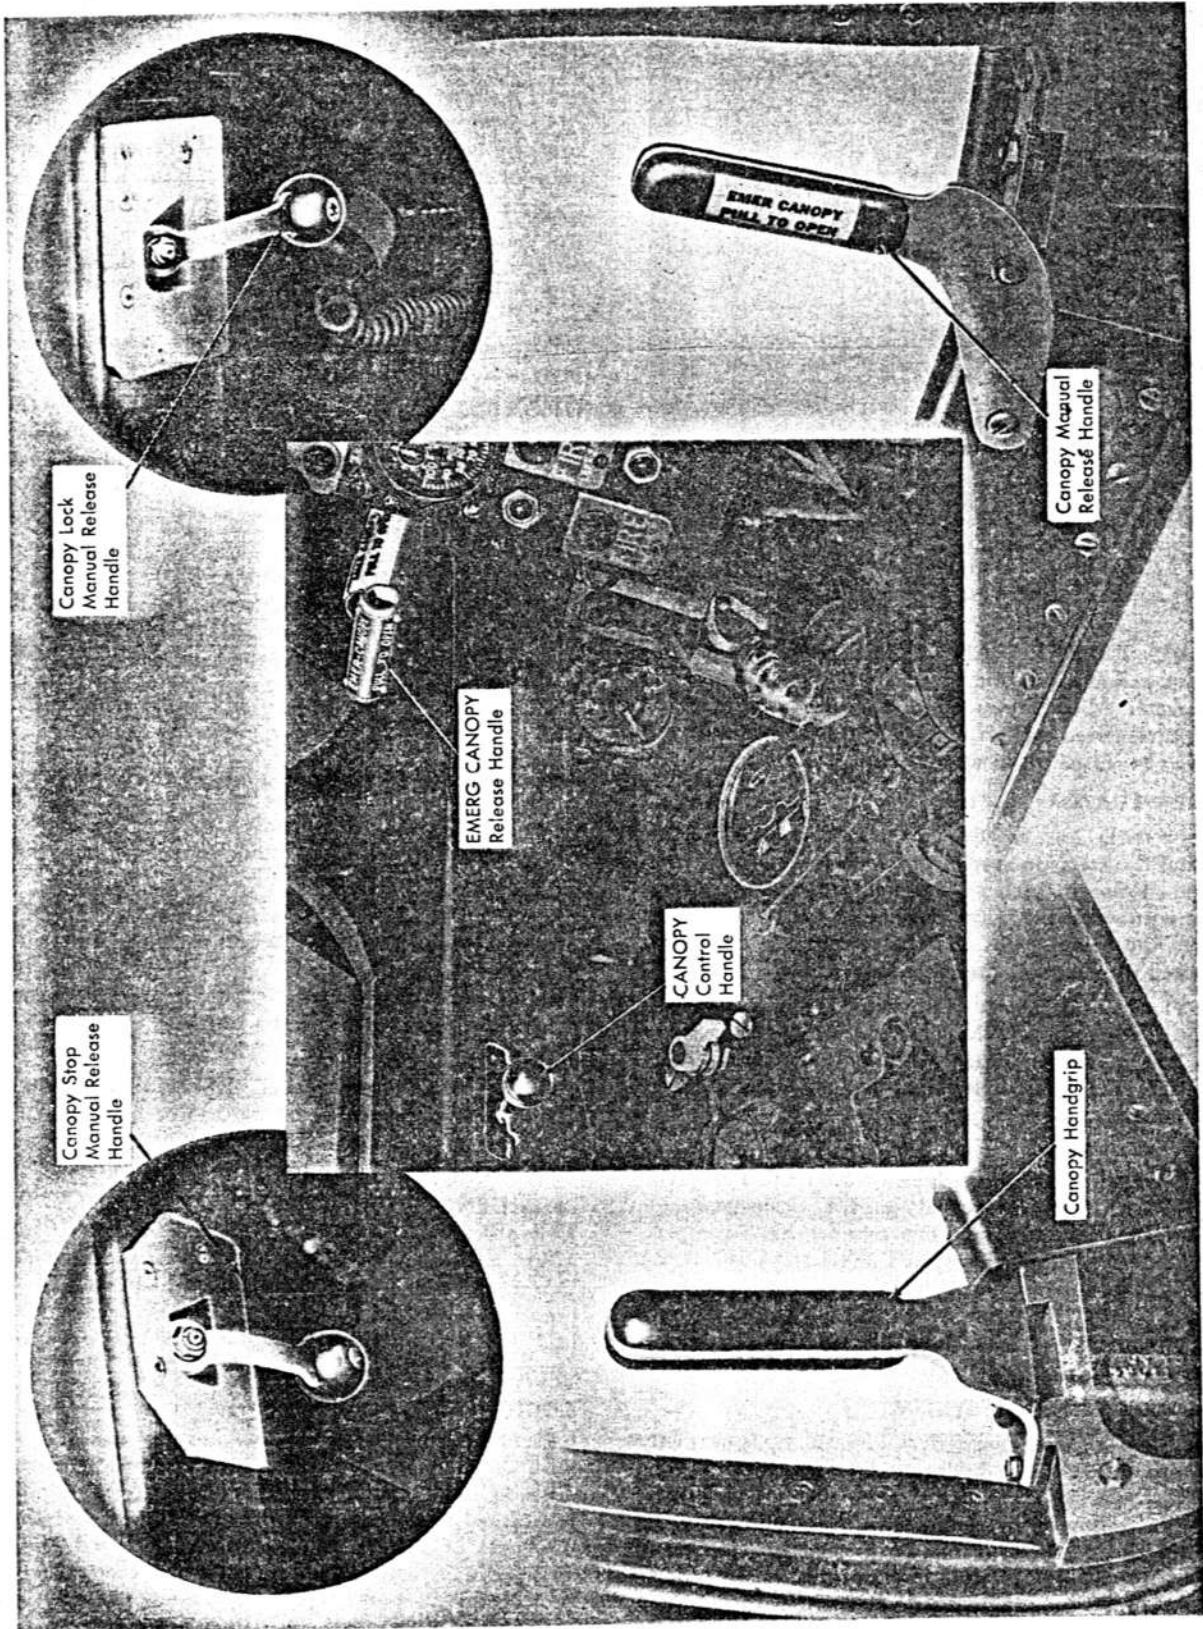

Figure 1-36. Canopy Controls
**CANOPY CONTROL HANDLE.** The CANOPY control handle (figure 1-36) is located in the cockpit on the forward part of the left-hand canopy track. The handle has three positions, "OPEN," "STOP," and "CLOSE," and controls a solenoid selector valve for opening, closing, and stopping the canopy in any intermediate position.
**CANOPY MANUAL RELEASE HANDLE (INTERIOR).** The interior canopy manual release handle (figure 1-36) is located on the left-hand forward corner of the canopy. Pulling the handle releases a lock securing the piston of the canopy actuating cylinder and allows the canopy to be opened manually.
**CANOPY LOCK MANUAL RELEASE HANDLE.** The canopy lock manual release handle (figure 1-36) is located on the left-hand canopy track. When the handle is moved forward, it unlocks the 40-g lock mechanism and permits the canopy to be closed manually.
**CANOPY STOP MANUAL RELEASE HANDLE.** The canopy stop manual release handle (figure 1-36) is located on the right-hand canopy track. It is used in removing the canopy from the airplane.
**EMERGENCY CANOPY RELEASE HANDLE.** The T-shaped EMERG CANOPY release handle (figure 1-36) is located to the left of the instrument panel. When pulled, the handle mechanically operates an air pressure valve which delivers compressed air (3,000 psi) to the canopy actuating cylinder to open the canopy.